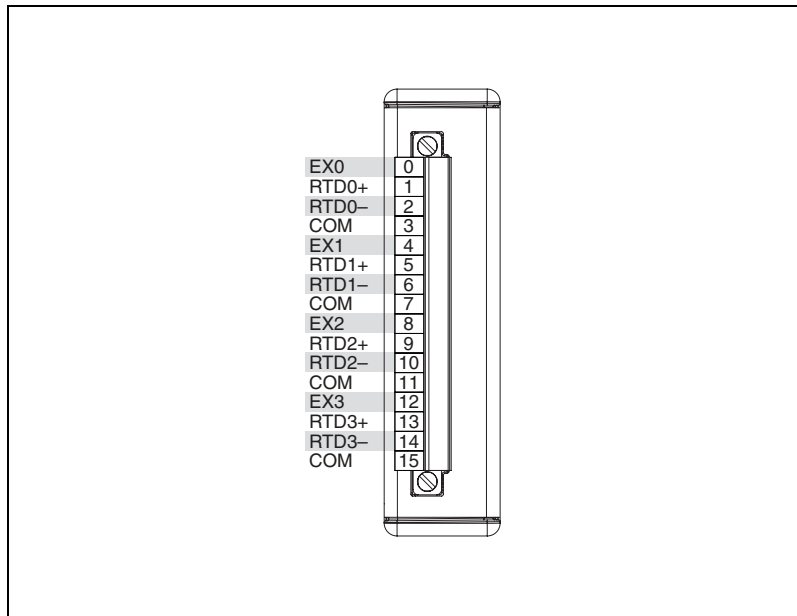

Figure 1. NI 9217 Terminal Assignments
2. Connect a resistor from the previous step to the NI 9217. Connect EX0 and RTD0+ to one end of the resistor, and RTD0- and COM to the opposite end of the resistor. Refer to Figure 1 for the terminal assignments of the NI 9217.